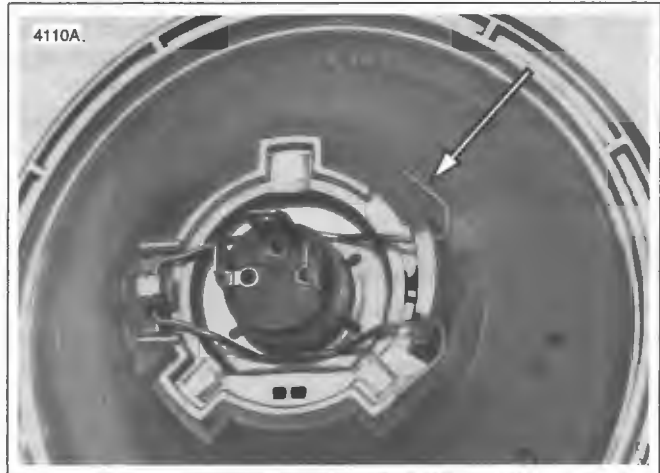
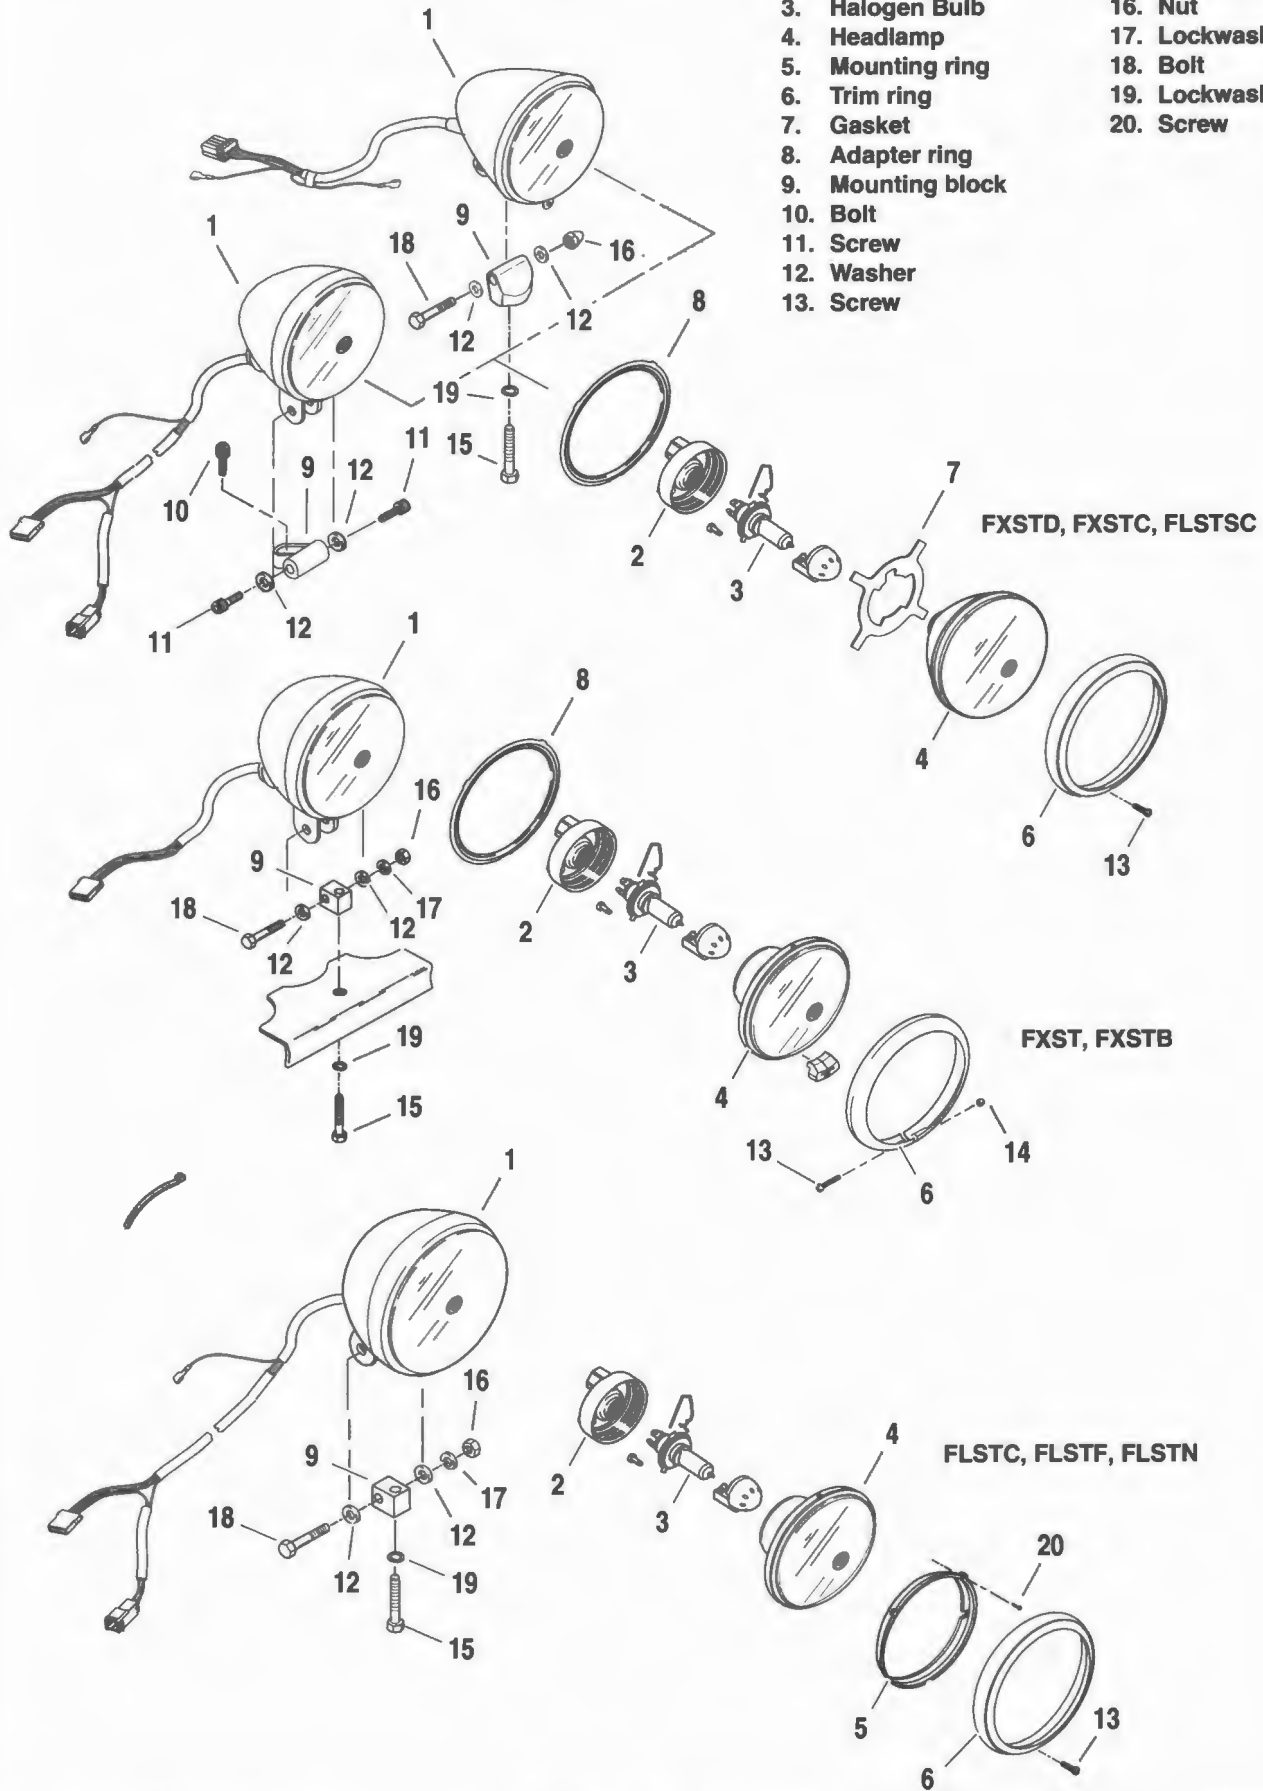

Figure 8-35. Wire Retaining Clip
Figure 8-36. Headlamps
1. See Figure 8-36. Remove trim ring screw (13) and trim ring (6).
3. Remove rubber boot (2) from back of headlamp assembly (4).
4. See Figure 8-35. Squeeze wire retaining clip ends to unhook them from notches in headlamp assembly.
1. See Figure 8-36. Loosen trim ring screw (13) and remove trim ring (6).
1. See Figure 8-36. Remove trim ring screw (13) and trim ring (6). Be careful not to bend the two tabs that hold the top of the trim ring in place.
2. Remove mounting ring screws (20) and mounting ring that holds sealed beam headlamp in place.
4. Remove rubber boot (2) from back of headlamp assembly (4).
5. See Figure 8-35. Squeeze wire retaining clip ends to unhook them from notches in headlamp assembly.